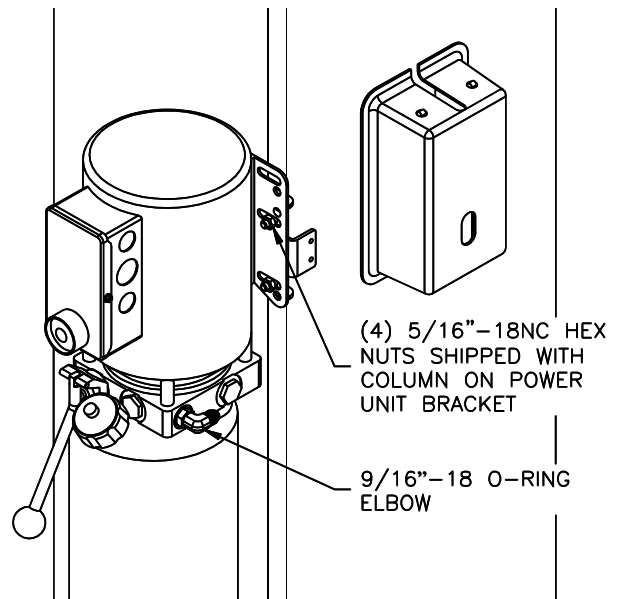

Fig. 11 – Power Unit Mounting
- 31) Mount Power Unit to power column as shown in **Fig 11**. The mounting hardware, (4) 5/16"-18NC hex nuts, are pre-installed on power unit mounting bracket.
- 32) Install 9/16"-18 O-ring elbow (*in hardware box*) into power unit, **Fig. 11**. **CAUTION** do not damage rubber O-ring.